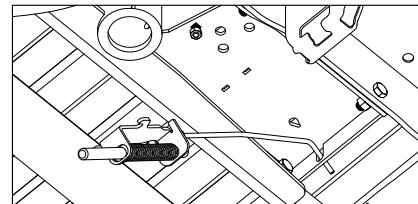
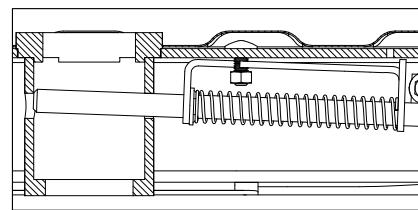

FIGURE E3: View under bed looking up at driver side frame from in front of the axle on passenger side.
FIGURE E4: Cut-away of center section
- Position the latch assembly.** Feed the handle through the hole in the end of the center as shown in figure E3. Start the latch pin through the first hole in the receiver socket while guiding the carriage bolt into the slot on the latch, see figure E4.